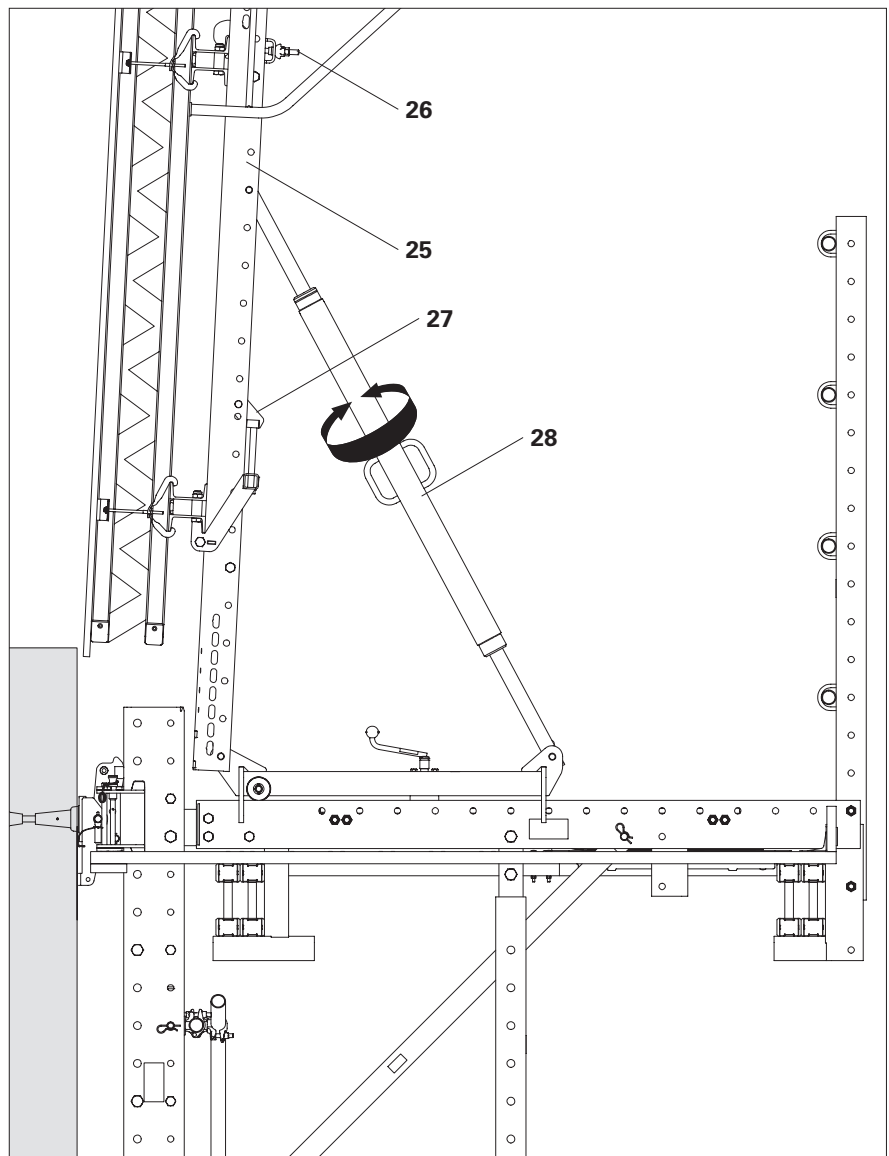

Fig. D2.02
1. Hold the spirit level against the formwork and move the formwork into a vertical position by turning the formwork spindle (**28**). (Fig. D2.02)